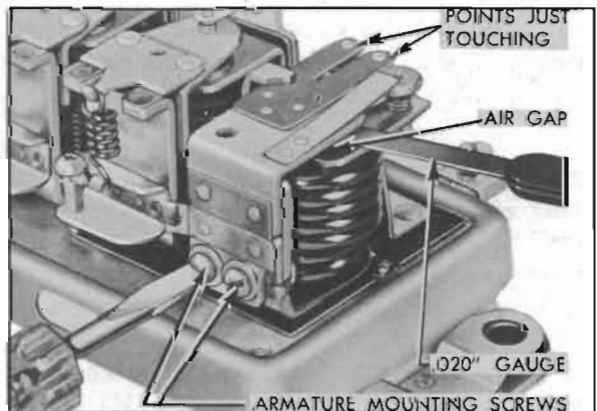

Figure 10-27—Adjustment of Cutout Relay Air Gap
1. Place finger on armature directly above core and move armature down until contact points just close. If both sets of points do not close simultaneously, bend spring fingers so that they do. *With points just closed*, measure air gap between armature and center of core; gap should be .020", measured with feeler gauge. Adjust air gap, if necessary, by loosening armature mounting screws and raising or lowering armature as required. Tighten screws securely and recheck air gap. See figure 10-27.